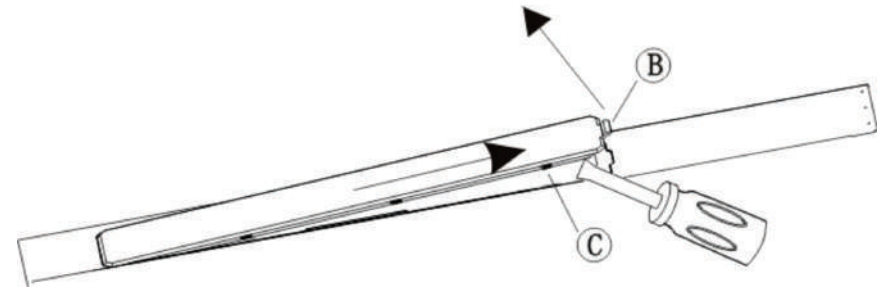

Fig 10
-The openings A on the hood (Fig.10) must be closed, since the air is re-circulated into the room through the front vents.